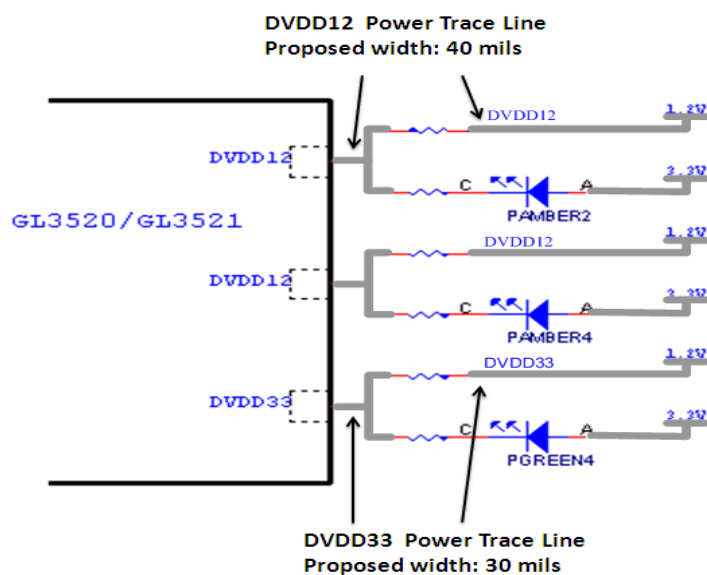

Figure 2.19
2. The layout trace diagram of 1.2V or 3.3V power trace is described as **Fig. 2.19**. Please route the power trace first, and then place GPIO (PAMBER#). The width of DVDD12 power trace line is recommended to be 40 mils, and the width of DVDD33 power trace line is to be 30 mils.